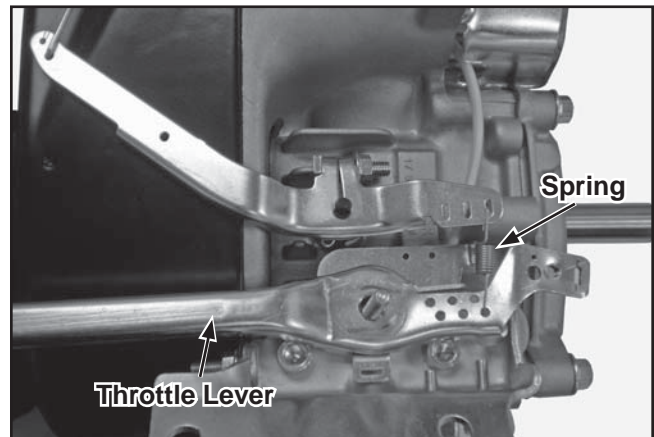

Figure 11-77. Install Throttle Lever for CH270.
4. Install the spring on the governor and throttle levers in the holes previously marked in disassembly. Install the throttle lever and a fender washer on the threaded stud of the fuel tank bracket. See Figures 11-77 and 11-78.